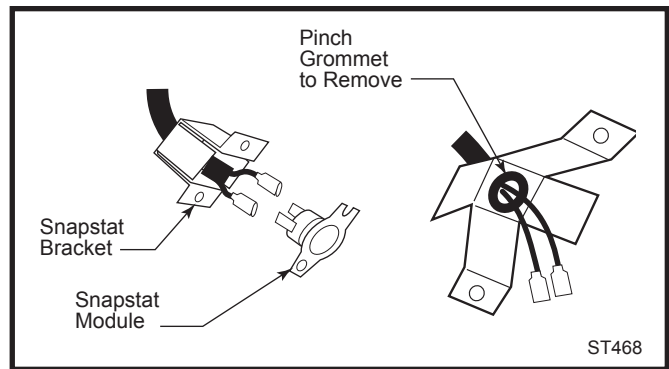

Fig. 14 Remove snapstat and grommet from bracket.
2. Disconnect the snapstat module from the leads inside the snapstat bracket. (Fig. 14)